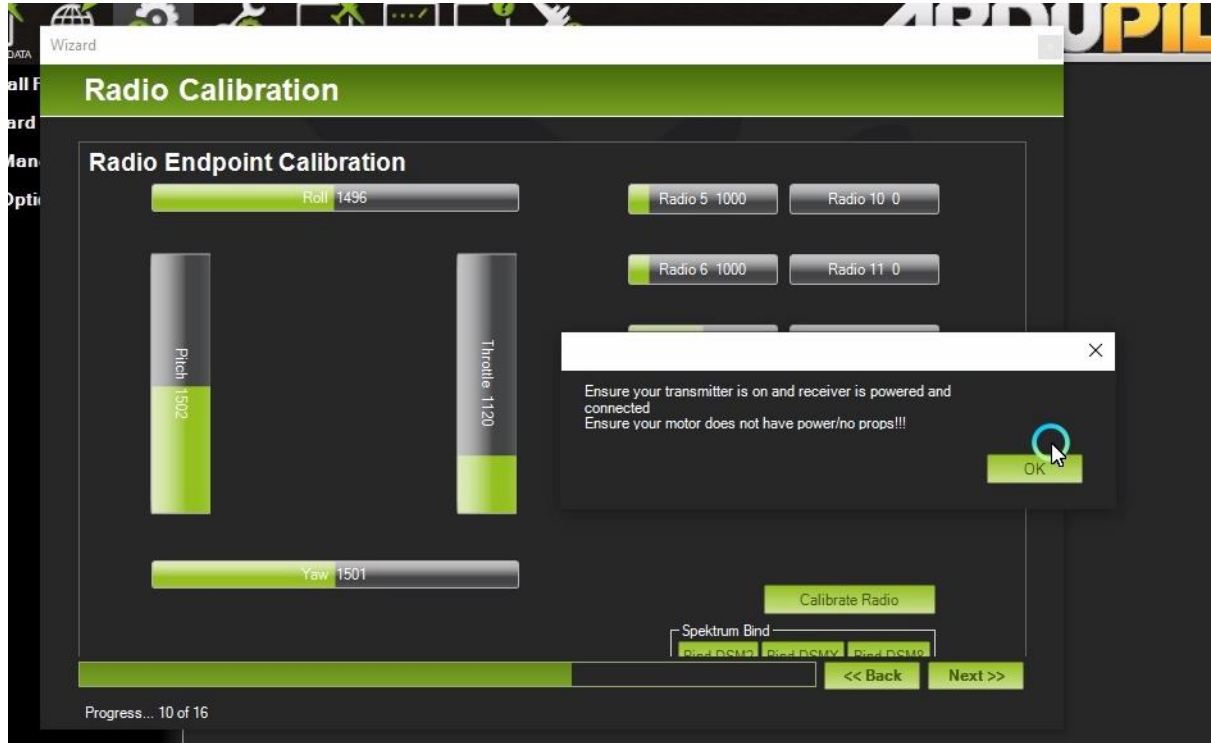

Fig.4.12
13. Now click continue and then click calibrate Radio. It will ask you to turn ON the transmitter. Turn it ON and press OK. Refer Fig.4.12.